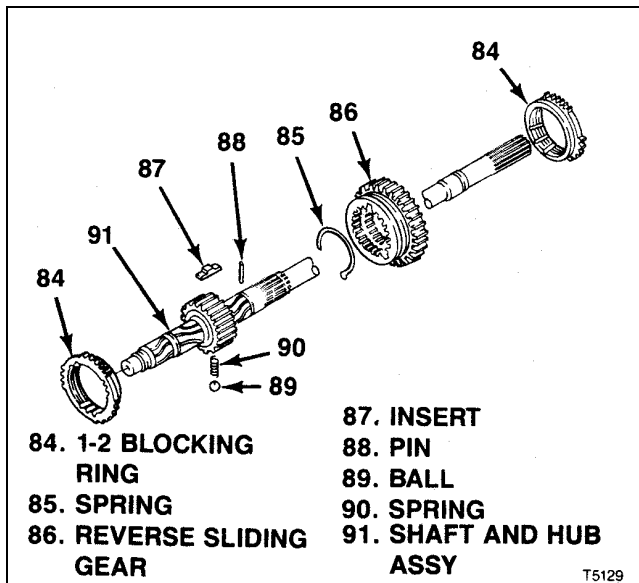

Figure 4-10. T5 STD Output Shaft Assembly
**4-16. DISASSEMBLY OF T5 STD OUTPUT SHAFT ASSEMBLY** (see figure 4-10):
- a. From each end of shaft and hub assembly (91), remove 1-2 blocking ring (84).
- b. Mark reverse sliding gear (86) and hub on shaft and hub assembly (91) so that clutch teeth can be assembled exactly as they were originally.
- c. Unhook and remove spring (85). Slide reverse sliding gear (86) from hub on shaft and hub assembly (91), freeing insert (87).
- d. Depending on which is used, remove pin (88), or ball (89) and spring (90).
- e. Do not attempt to disassemble shaft and hub assembly (91).